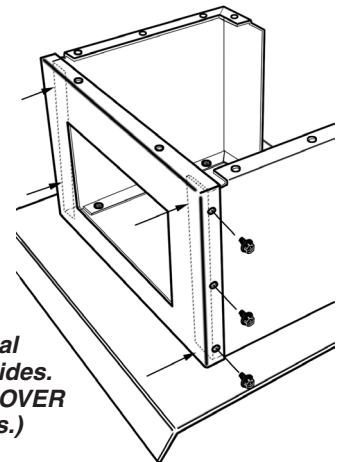

Figure 4 – Attach Pedestal Front Frame to Sides. (Note– front goes OVER the side panels.)
4. Attach the pedestal front frame to the sides. The pedestal front should go **over** (not inside of) the side panels. Use three (3) self-tapping screws (provided in the hardware pack) on each side to attach both pedestal sides to the pedestal front (figure 4).